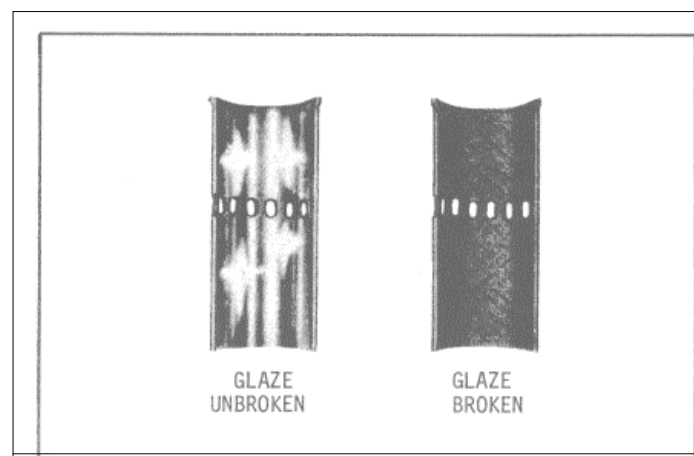

Fig. 5
- (1) Break the glaze (Fig.5) due to the rubbing action of the piston rings which results after long periods of operation. Unless this glaze is removed, the time required to seat new piston rings will be lengthened.